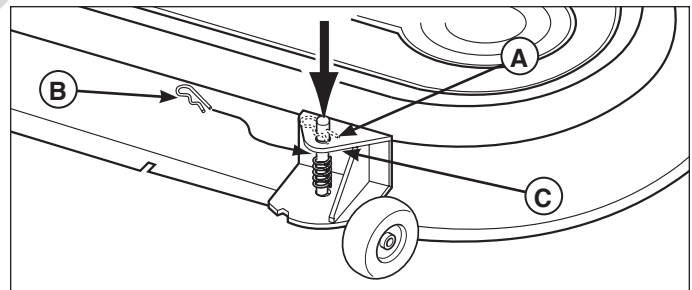

Figure 24. Gauge Wheel Adjustment
1. Remove the hair pin clip (A, B, Figure 24).
2. For upper position, install the pin (A) through the spindle above the bracket (C). For the lower position, push down on the top of the spindle, and install the hair pin clip (B) below the top of the bracket (C).